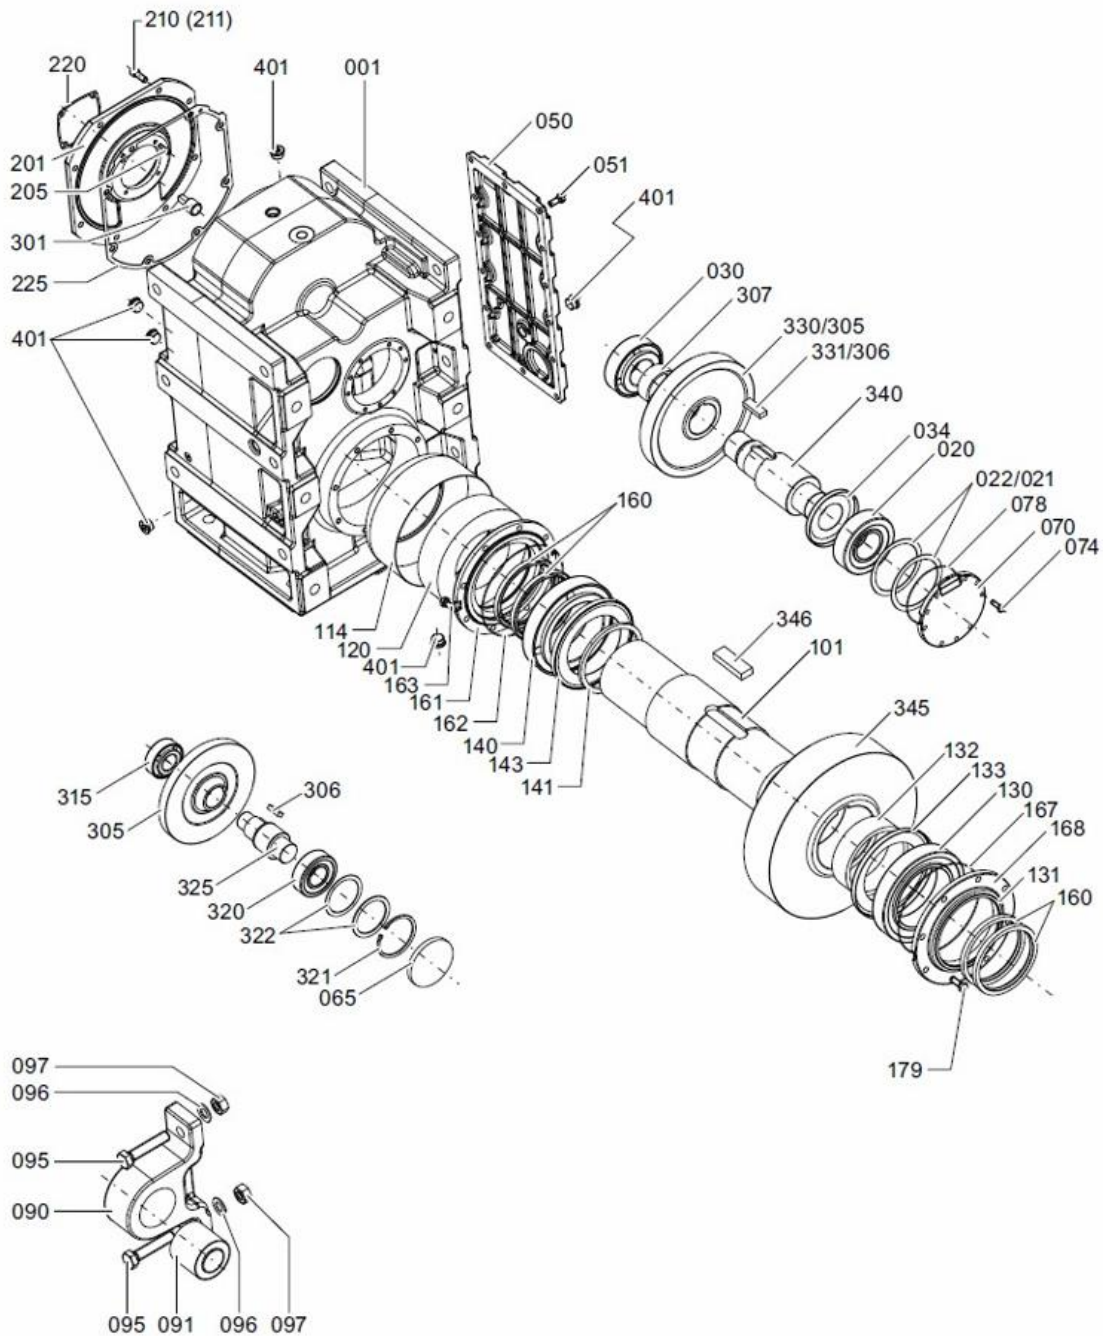

Figure 6.4—Exploded Assembly Drawing of a Gearbox
- **Follow the path of the force.** From the location where a force is applied, follow the force and loads to the final points of restraint. For example, in Figure 6.4, the torque generated by the electric motor driving the pump is restrained by the hold-down bolts in the pedestal, which is itself embedded in the foundation supporting the whole machine. Ultimately, it is the foundation that restrains all operating forces and loads.
Up-to-date process drawings, equipment drawings, general assembly drawings, manufacturer manuals, parts assembly drawings, and bills of material are collected so that they can be reviewed to identify critical equipment in a production process. For critical equipment, critical parts are identified so that appropriate activities can be selected to keep each part at exceptional reliability. Figure 6.4 is an example of an “exploded” general assembly for a small industrial gearbox; it shows how the individual parts are assembled to make the equipment. The same manual will include a parts list that describes each part number shown on the parts assembly drawing.